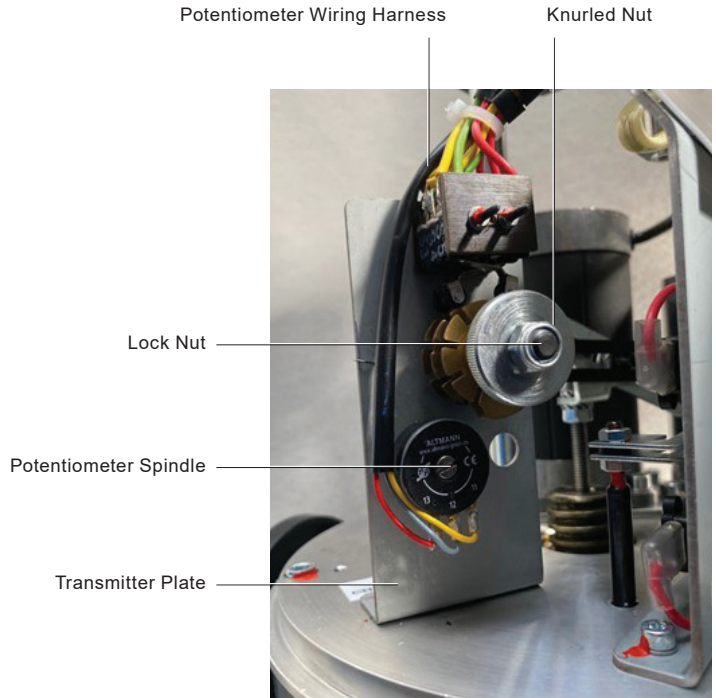

Fig. 12 Potentiometer Installation and Adjustment (8kN+)
- Refer to Fig. 12 Potentiometer Installation and Adjustment (8 kN+) for product orientation